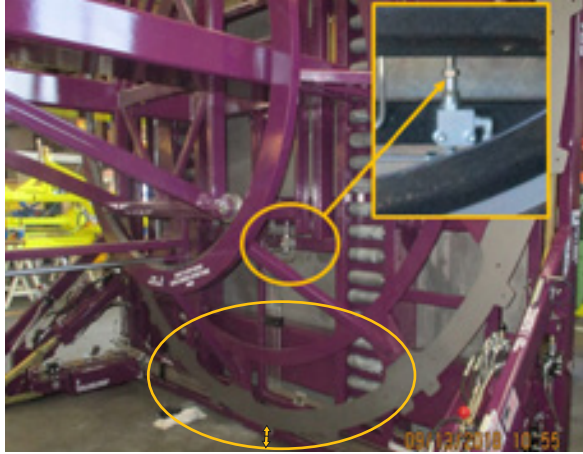

Figure 5.3 Fan Carriage and Mounting Ring is in Lower position
1. Figure 5.3 shows the Carriage and Mounting Ring are in the (LOWER) position; in this position the stand can be flipped between “A” and “B” positions.